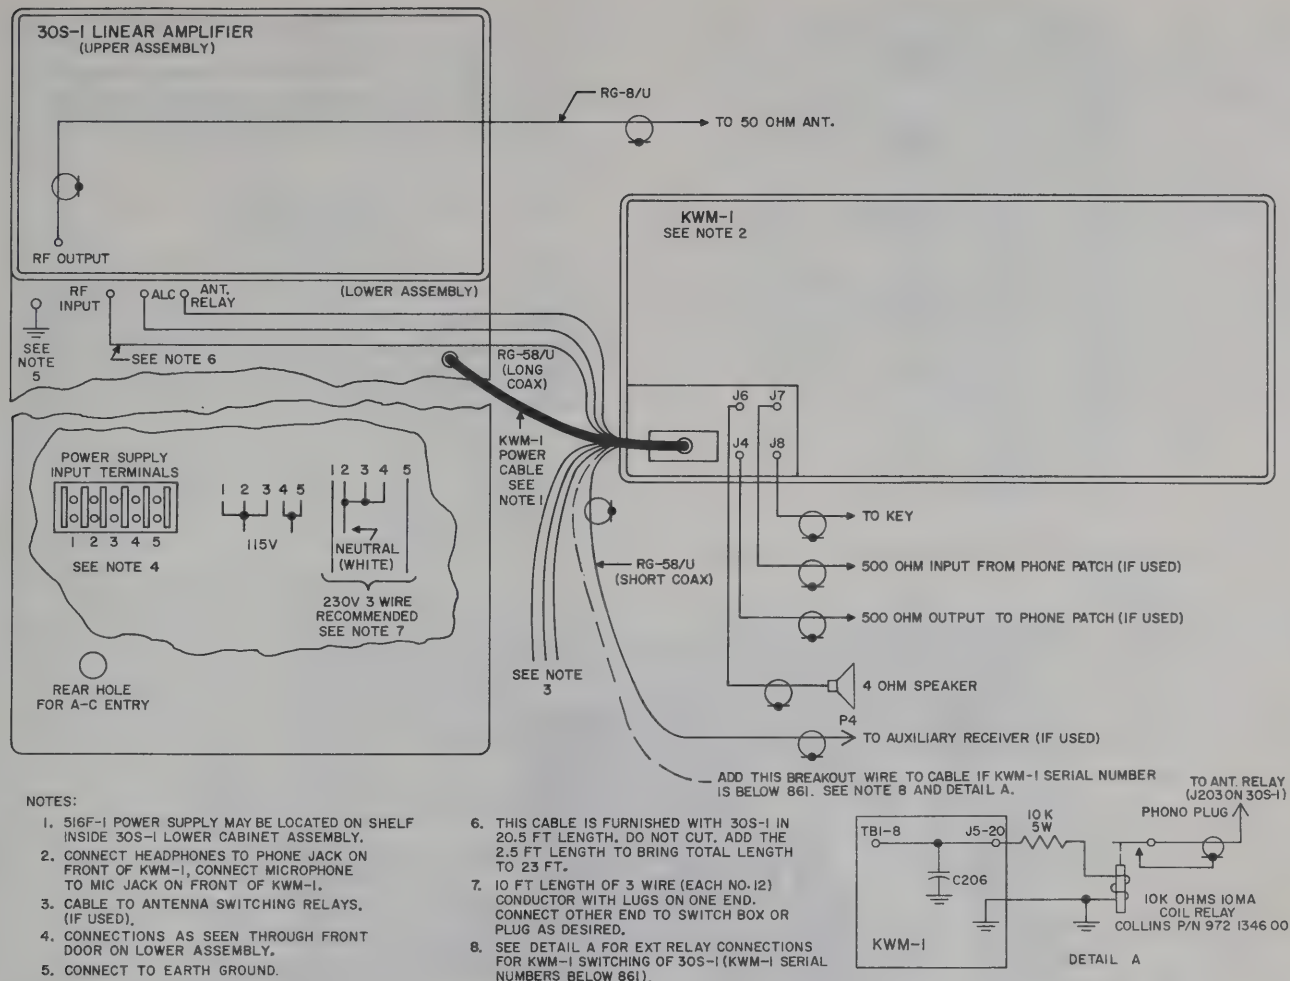

Figure 3. Station Interconnections with KWM-1
o. If KWM-1 models below serial number 861 are used with the 30S-1, it is necessary to make connections inside the KWM-1 for alc. Use an ohmmeter to locate the feedthrough capacitor, C169, which is connected to pin 19 of J5. Connect a wire from this feedthrough capacitor to pin 7 of tube socket XV10. In addition, it will be necessary to connect an external dropping resistor and relay as shown in the detail of figure 3, for KWM-1 control of changeover relays in the 30S-1. Using an ohmmeter, locate the feedthrough capacitor, C206, which is connected to pin 20 of J5 (in KWM-1). Connect a wire from terminal 8 of TB1 in KWM-1 to C206. Make corresponding breakout connection from P1-19 with shielded wire and connect breakout to 30S-1 ALC jack with a phono plug. External to the KWM-1, connect a 10,000-ohm, 5-watt resistor and a relay coil in series from J5-20 to a ground on the rear of the KWM-1 chassis. Use a relay, such as Collins part number 972-1346-00, with a 10,000-ohm, 10-ma coil and a set of normally open contacts. Connect the normally open contacts through a piece of shielded wire (or microphone cable) and a phono plug to ANT. RELAY (J203) on the 30S-1. This arrangement will allow KWM-1 switching of 30S-1 changeover relays.